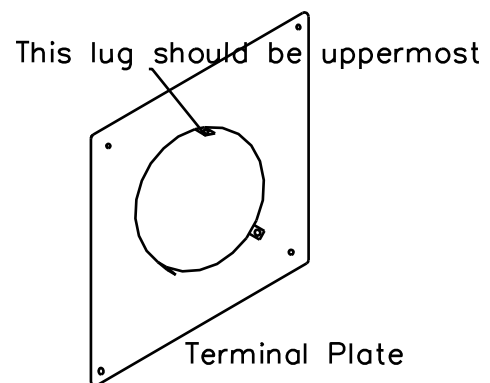
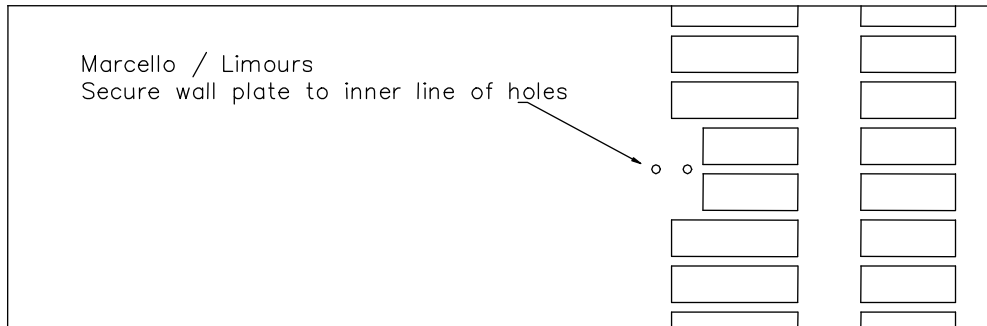

Figure 3
Figure 4
- 2 Thread the outside Terminal plate onto the flue and push the flue into the wall from the outside. Apply mastic to the rear face of the Terminal plate and fix to the wall using screws and wall plugs. Make sure the plate is fixed the correct way up. (See Figure 3) Slide the flue further into the wall until the tabs on the wall plate line up with the holes in the outer flue tube. Temporarily fix the tube to the wall plate with the self tapping screws provided. Use the inner holes as shown in Figure 4.
- 3 Thread the outside wall plate onto the flue and push the flue into the wall from the outside. Apply mastic to the rear face of the wall plate and fix to the wall using screws and wall plugs. Make sure the plate is fixed the correct way up. (See Figure 3) Slide the flue further into the wall until the tabs on the wall plate line up with the holes in the outer flue tube. Temporarily fix the tube to the wall plate with the self tapping screws provided. Use the inner holes as shown in Figure 4.